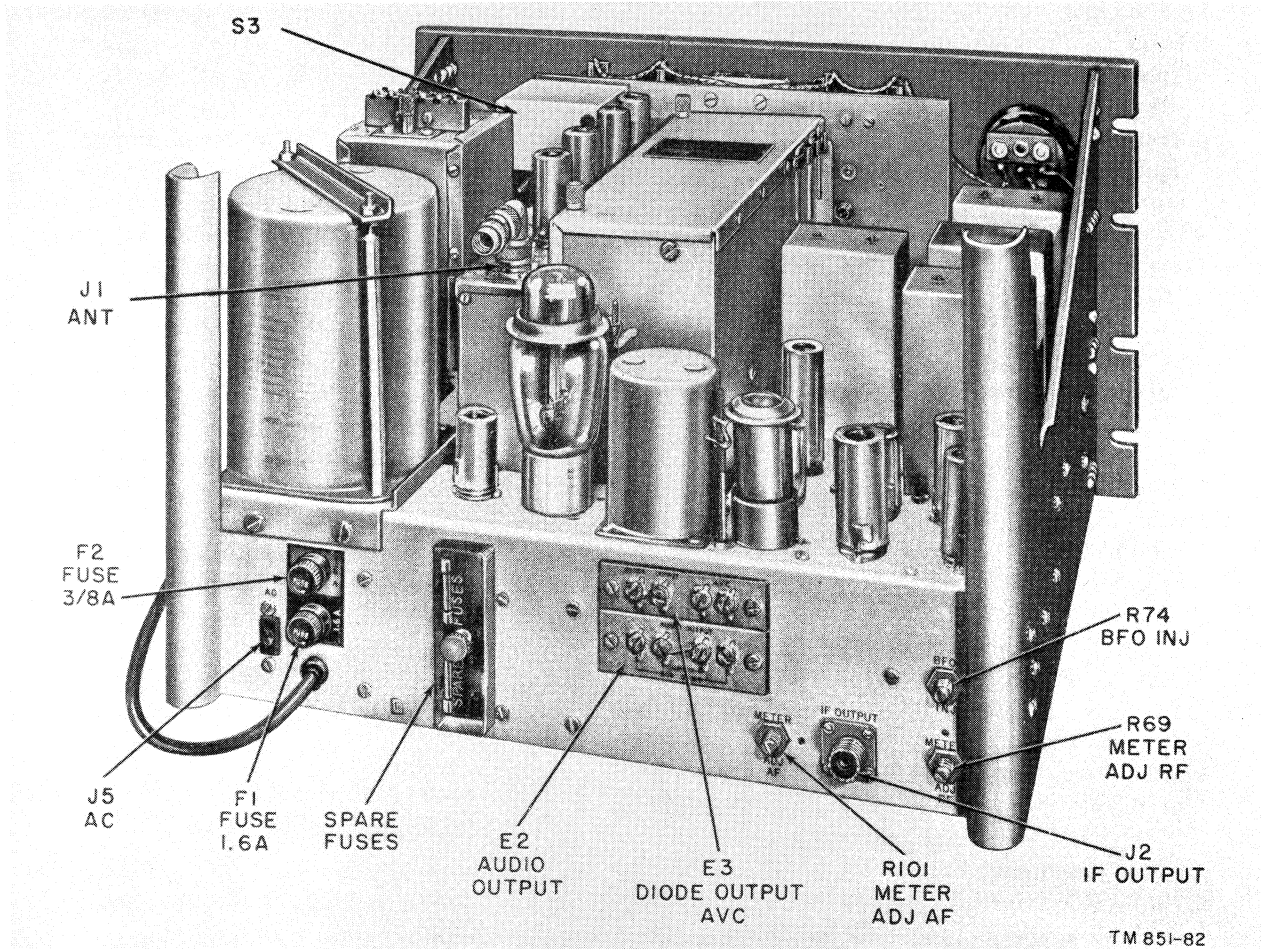

Figure 10. Radio Receiver R-274C/FRR, chassis and panel assembly, rear view.
b. Figure 4, showing the front view of Radio Receiver R-483/FRR, is equally applicable to Radio Receiver R-483A/FRR. Radio Receiver R-483A/FRR utilizes the top-hat type of tube clamps (fig. 10) and its rear apron is identical with that outlined for Radio Receiver R-274C/FRR (par. 12b and c).